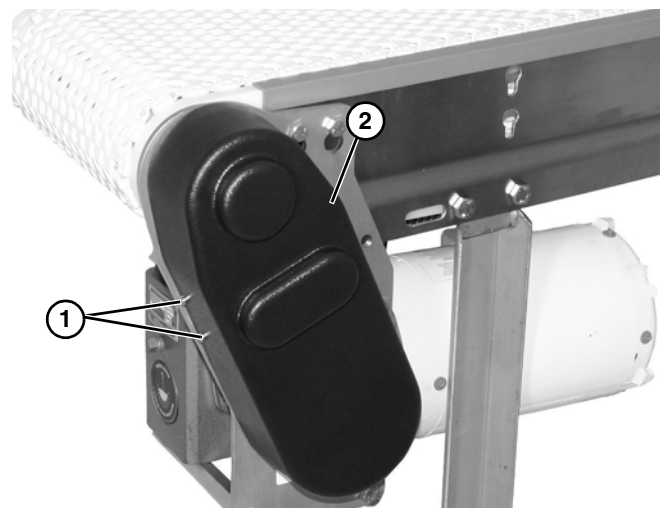

Figure 27
1. Remove four screws (Figure 27, item 1) and remove cover (Figure 27, item 2).